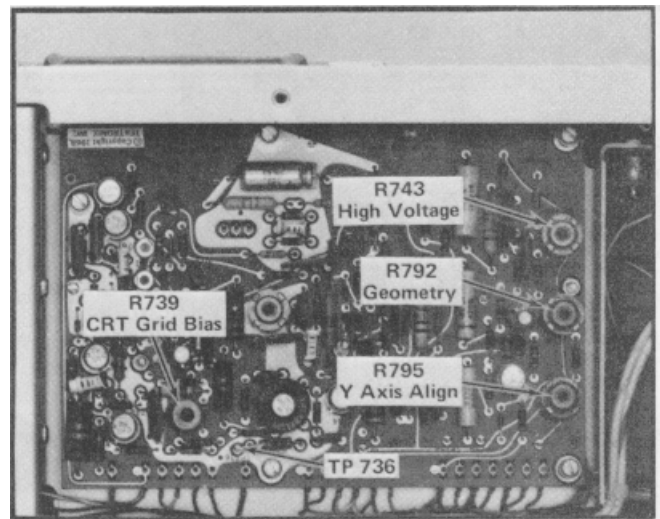

Fig. 5-3. Location of high-voltage test points and adjustments (bottom of instrument).
- e. ADJUST-High Voltage adjustment R743 (see Fig. 5-3) for a meter reading of -2960 volts.
- d. Connect the DC voltmeter (VOM) between TP 736 (see Fig. 5-3) and chassis ground. Note the voltmeter reading.
- f. ADJUST-CRT Grid Bias adjustment R739 (see Fig. 5-3) so the dot on the CRT screen is just extinguished.
e. Position the traces to the vertical and horizontal center lines of the graticule. Use the VERT TRACE SEPARATION (B) control to position the horizontal trace, and the calibration fixture Position control to position the vertical trace.
g. ADJUST-Front-panel TRACE ROTATION adjustment (horizontal alignment) and Y Axis Align adjustment (vertical alignment) R795 (see Fig. 5-3) so the vertical and horizontal traces align with the vertical and horizontal center lines.
k. ADJUST-Geometry adjustment R792 (see Fig. 5-3) for minimum bowing of time markers. Adjustment may have to be compromised to obtain less than 0.1 division bowing and tilt everywhere within the graticule area.